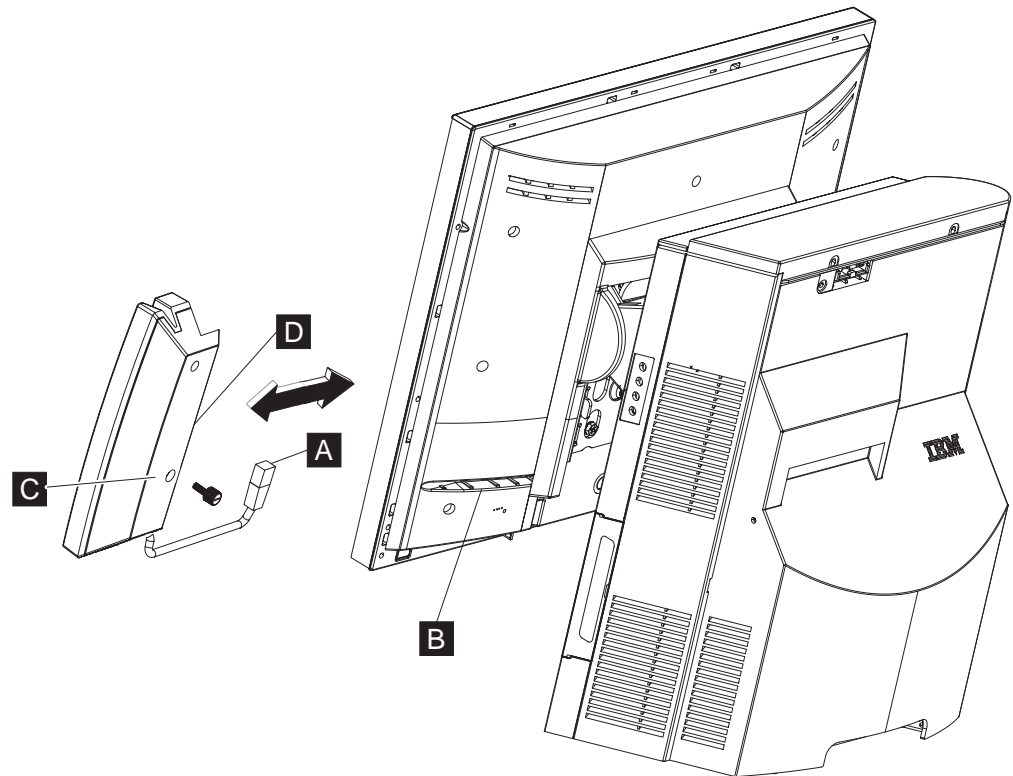

Figure 37. Removing the MSR
2. Unplug the MSR cable **A**, as shown in Figure 37 and remove the cable from the cable groove **B**.